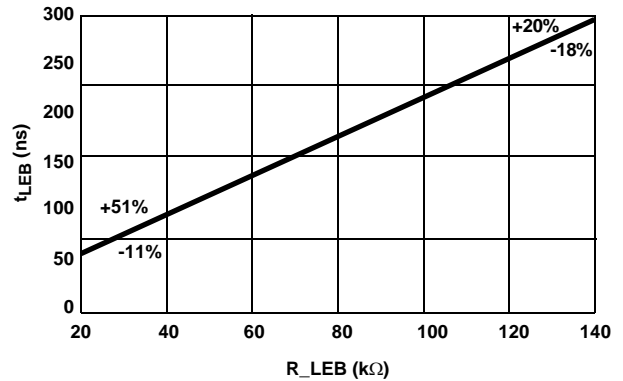

FIGURE 8. R_LEB vs. t_LEB
- The blanking time can be estimated with Equation 9, whose relationship can be seen in Figure 8. The percentages in the figure are the tolerances at the two endpoints of the curve.